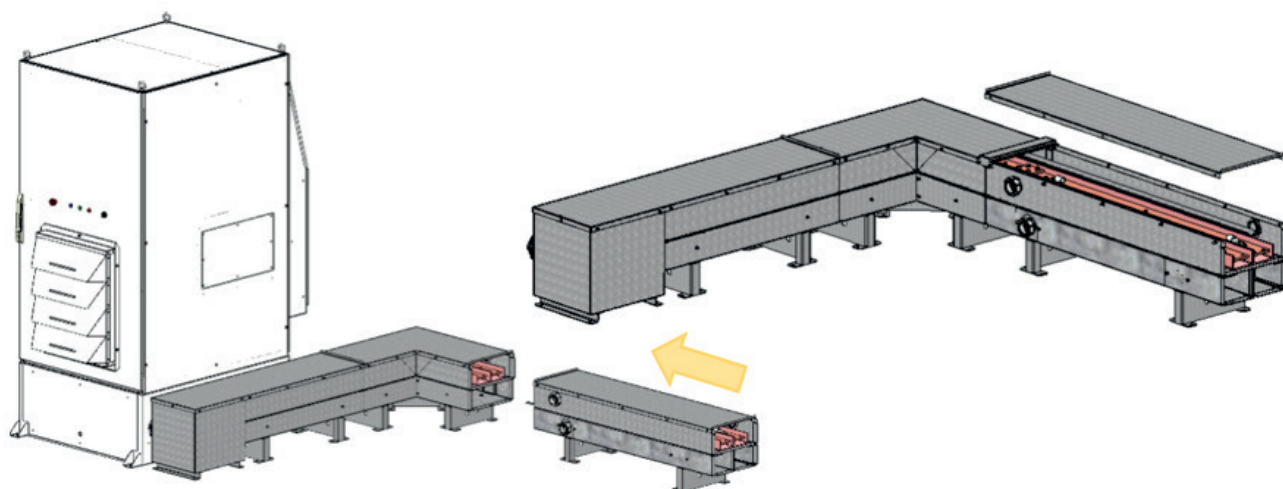

Figure 68. C-Trough B-Cab XXL Interface Module
- **Step 4:** Place the B-Cab XXL interface C-Trough module as shown in Figure 68.